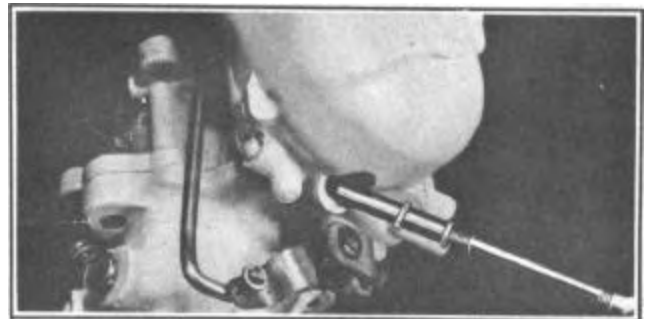

FIGURE 41
23. Install nozzle, nozzle retainer plug and nozzle passage plug and gasket assembly, Figure 41.